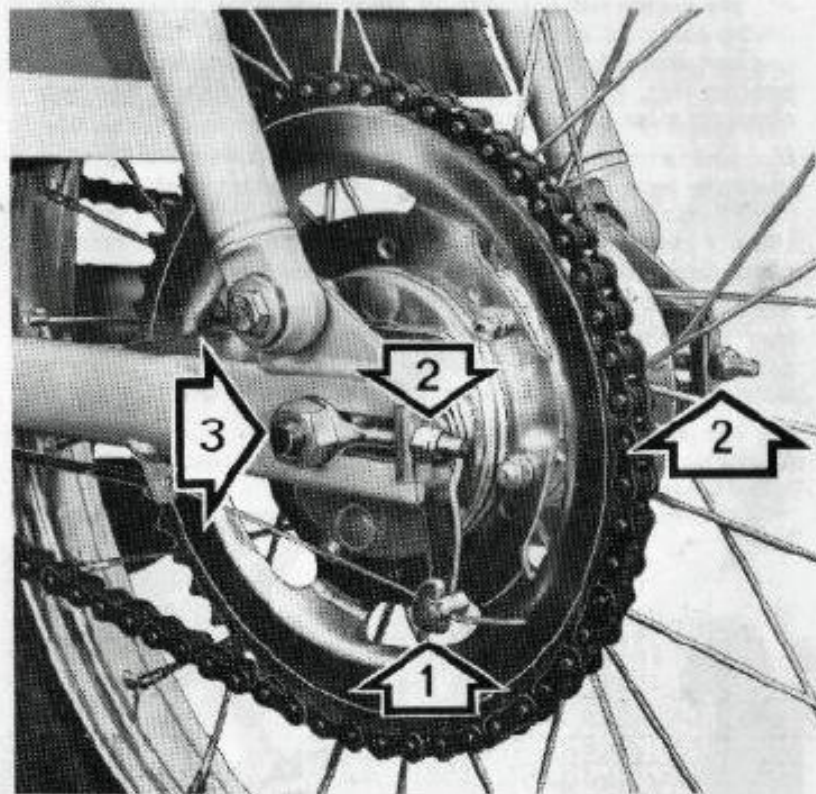

Fig. 17
- To disconnect the brake cable, push the brake arm (1, Fig. 17) forward and unhook the cable stop without unscrewing it.
- Loosen wheel nuts (3) and disengage the chain tensioners (2) without changing their adjustment.